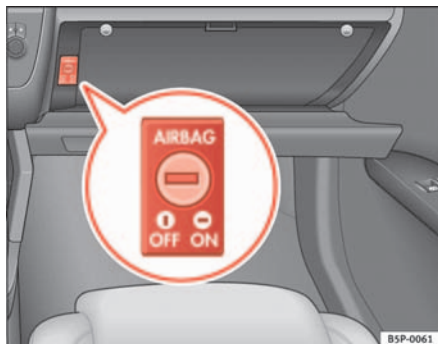

Fig. 26 In the glove box there is key switch for disabling and enabling the airbags on the front passenger side
- Turn the ignition switch in the key operated switch in the glove box to the position **OFF** ⇒ fig. 26.
- Turn the ignition switch in the key-operated switch in the glove box to the position **ON** ⇒ fig. 26. ▶